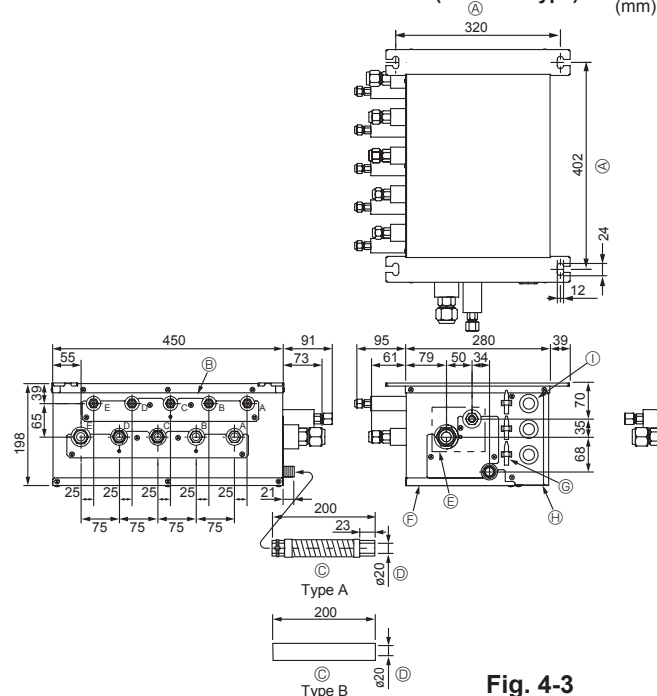

Fig. 4-3
- ⑥ Flexible drain hose (Accessory)
- ⑦ Drain pipe connection (VP-16)
- ⑧ To outdoor unit
- ⑨ Service panel (for LEV, THERMISTOR)
- ⑩ 3-WIRE BAND
- ⑪ Electric cover
- ⑫ 3-electric wire inlet
- ⑬ Terminal block (to indoor unit)
- ⑭ Terminal block (to outdoor unit)
■ PAC-AK51BC/PAC-AK52BC/PAC-AK53BC (Fig. 4-3)
- (1) Install the suspension bolts (procure locally) at the specified pitch (Fig. 4-3, 4-4).
- (2) Fit the washers and nuts (①, ②, procure locally) to the suspension bolts.